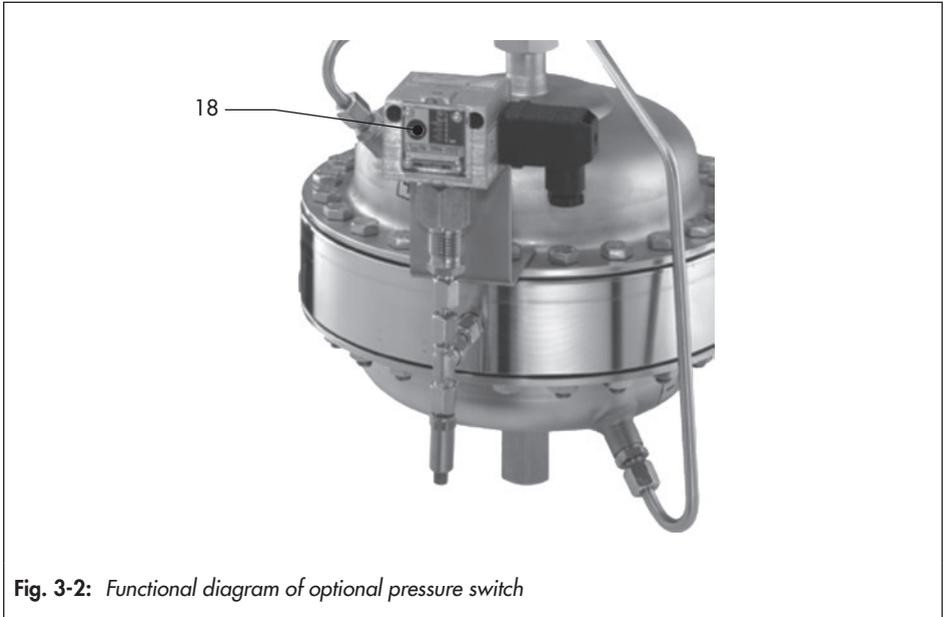

Fig. 3-2: Functional diagram of optional pressure switch
→ See Fig. 3-1 and Fig. 3-2
**Legend for Fig. 3-1 and Fig. 3-2**